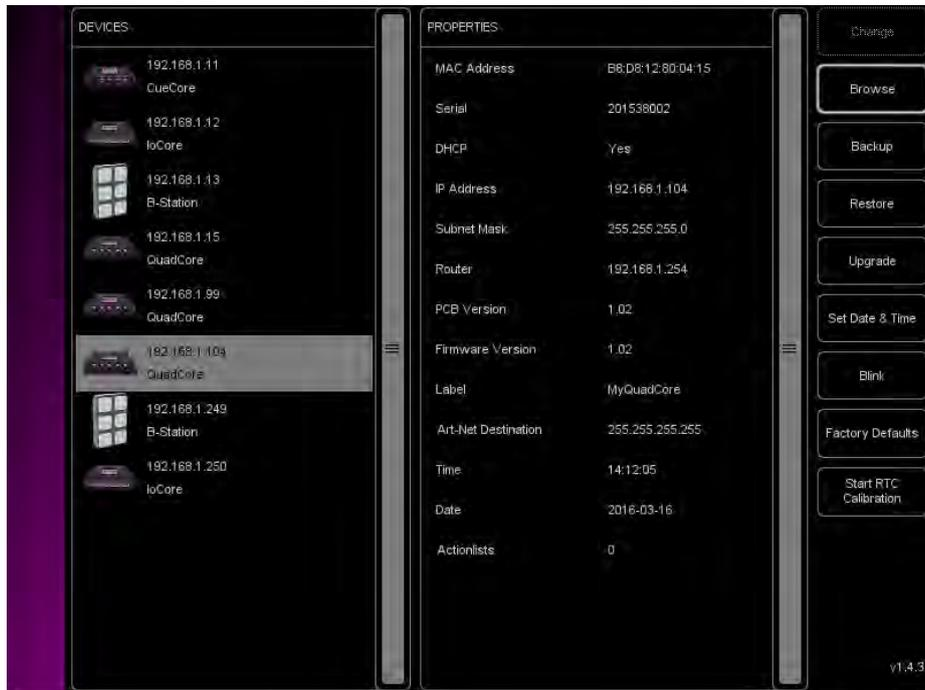

Figure 5.5: vManager
- **vManager** can be used to detect a B-Station on the network. Once found, the vManager software (figure 5.5) allows for changing the IP address and subnet mask.
The following section explain the buttons in the vManger, as seen in figure 5.5.